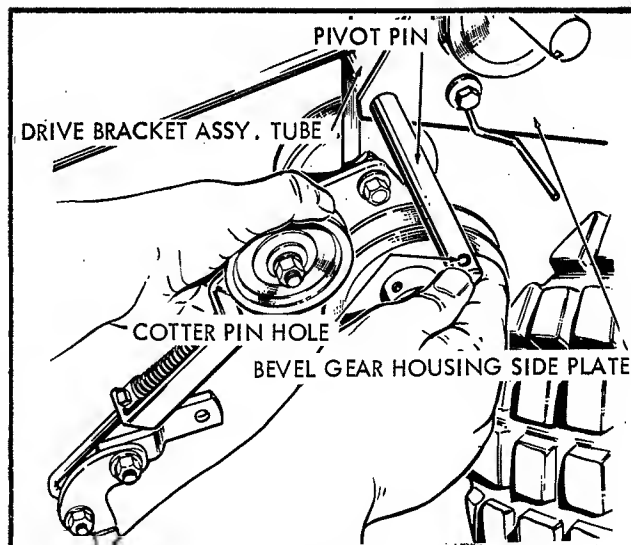

Fig. 2
2. Holding the power take-off assembly in left hand as shown in Figure 2, position the tube of the drive bracket assembly between the bevel gear housing side plates. Align the holes in side plates with the hole in drive bracket assembly tube and insert pivot pin through holes in side plates and drive bracket assembly tube.